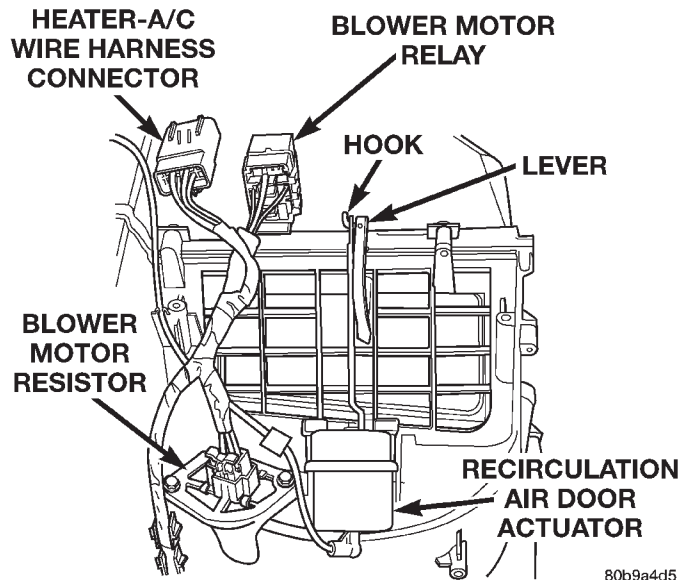

Fig. 47 Recirculation Air Door Vacuum Actuator Remove/Install
(1) Disconnect and isolate the battery negative cable.
(2) Remove the kick cover from the heater-A/C housing. See Kick Cover in this group for the procedures.
(3) Unplug the vacuum harness connector from the recirculation air door actuator (Fig. 47).